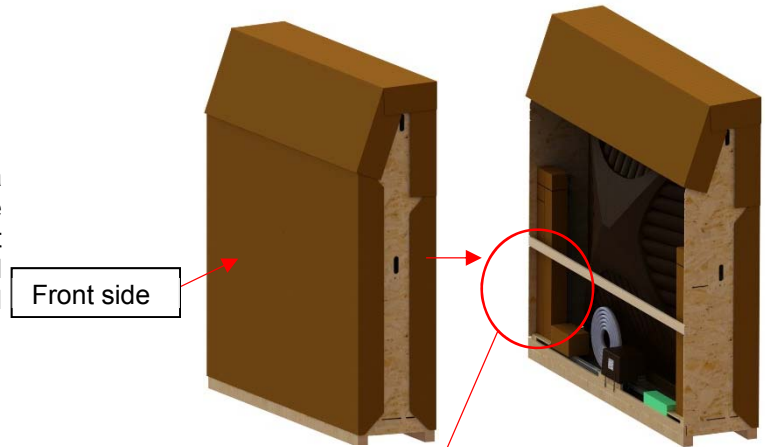

Figure 24
- 1) Before uncrating the unit, ensure there is no visible damage to the crate. In case of any suspicious damage, take pictures first and please call COVANA customer service immediately. Always stand the crate in the vertical position. Ensure that the uncrating can be done safely given the wind conditions. (Figure 24)
- 2) Remove the cardboard on the front side. (Figure 24)